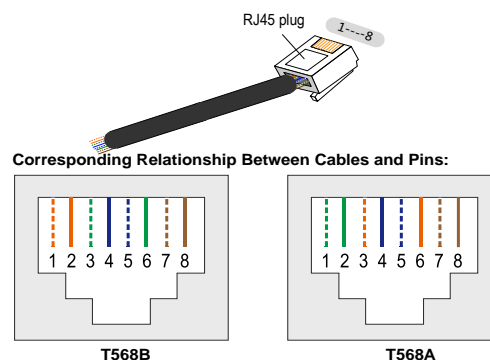

Figure 6 Colour order for the patch Ethernet cable
**Step 3** Use the pin configuration stated below for CANH and CANL terminals. Please refer to Figure 6 for configuration of the plug.